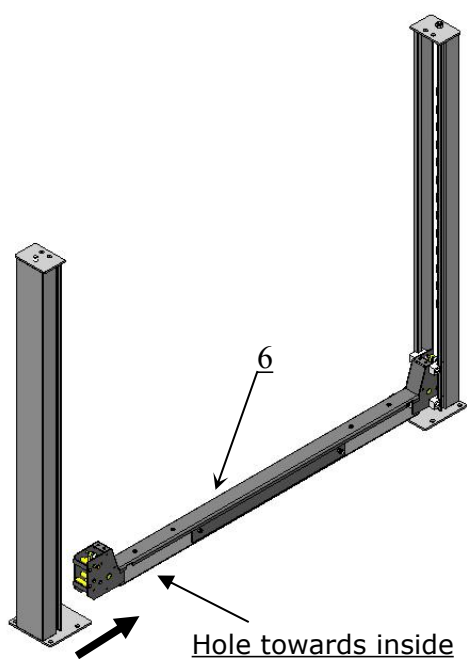

Fig.12
C. Install cross beams (See Fig.12, Fig.13).